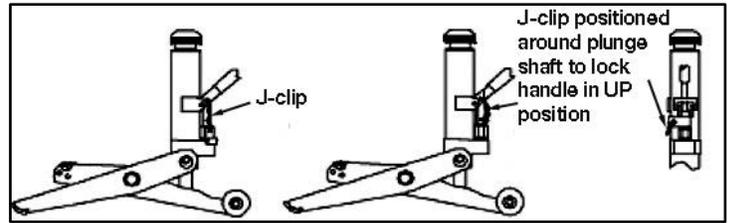

Fig. 3: Lock handle in up position
3. Raise the pump handle as far as it will go and place the J-clip around the pump plunger shaft to lock the pump handle in the up position (see Figure 3).